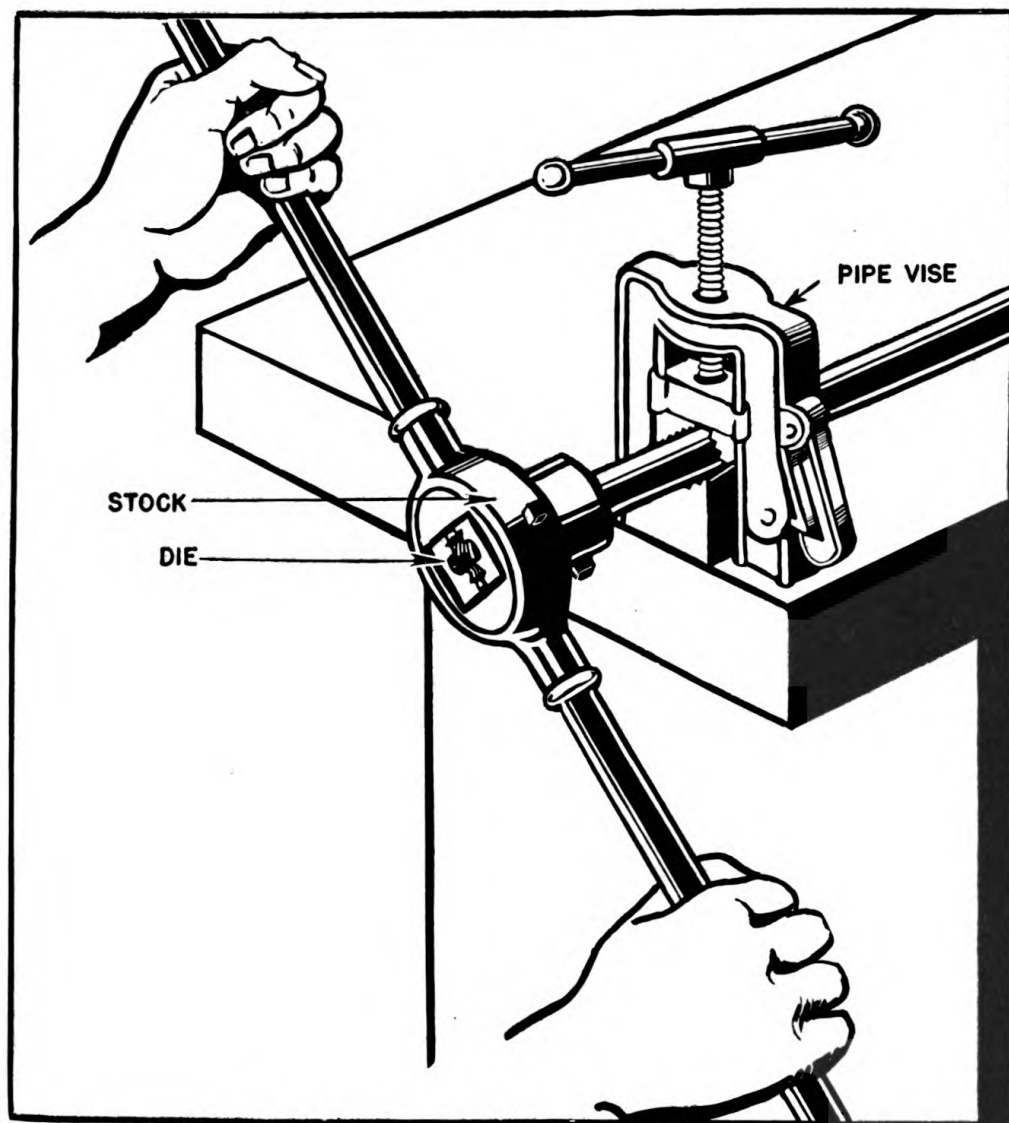

FIGURE 68.—Threading pipe.
c. Cutting pipe threads.—Pipe fittings have tapered threads and require special dies, called pipe dies, so they can be turned up tight and leakproof. A stock is used to turn the dies, and the same stock can be used for threading several sizes of pipe. Most pipe dies can be adjusted to cut slightly different depths of thread so that a longer or shorter thread on the end of the pipe can be obtained as desired. To cut the threads, secure the work and hold the stock as shown in figure 68; then proceed as when using any other die; keep the work well oiled. It is a good idea to test the thread with a standard pipe fitting when the operation is finished.